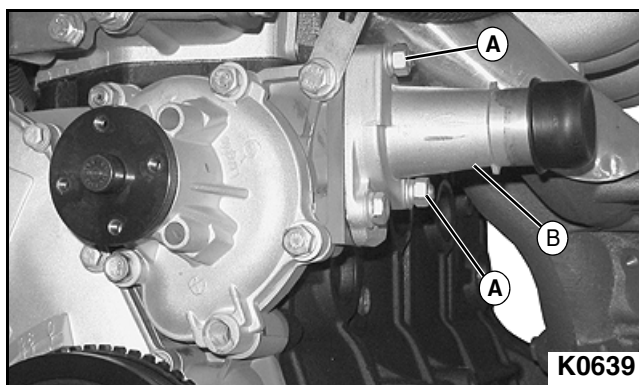

Figure 3-9
2. Remove thermostat housing mounting nuts, flat washers, and lock washers (A). **See Figure 3-9.**
3. Remove thermostat housing from water pump housing (B).